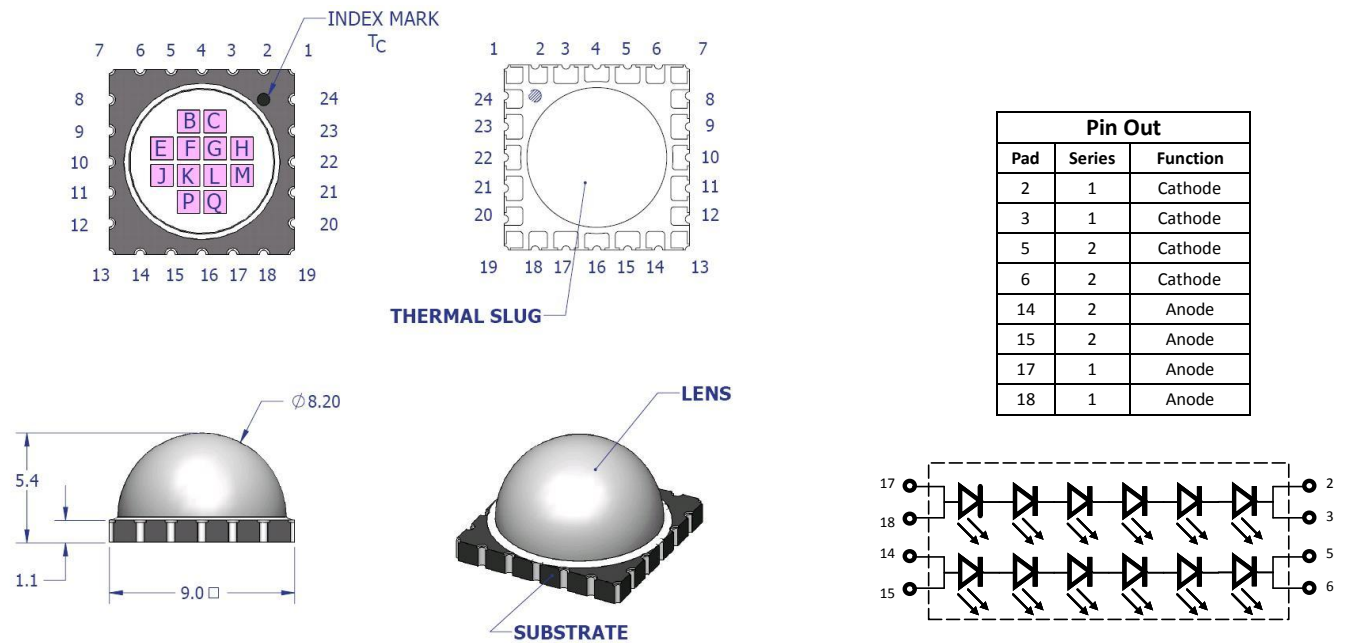

Figure 1: Package outline drawing.
Notes for Figure 1:
**Note for Figure 1:**